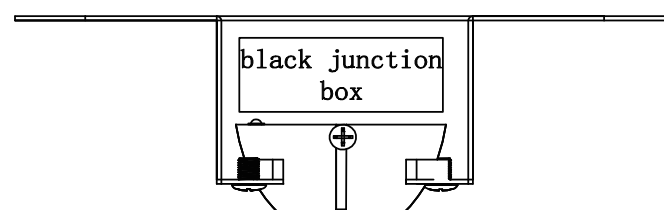

Figure 5
- Route wires through motor coupling cover, canopy screw cover and ceiling canopy. (Figure 5)
- Use bandage to extend into the wave filter mounting hole and the screw hole of the hanger bracket, and tighten bandage (for subsequent installation of the ceiling Canopy). (Figure 5)